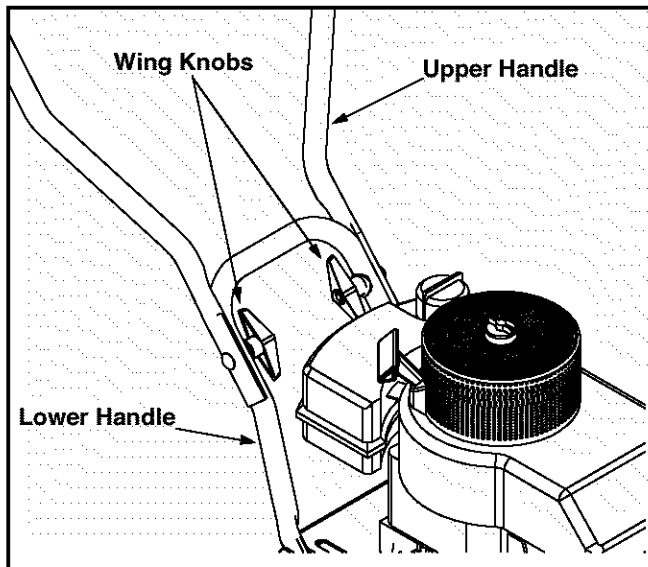

Figure 2
- Tighten the wing knobs which are located on both the left and right sides of the handle. See Figure 2.